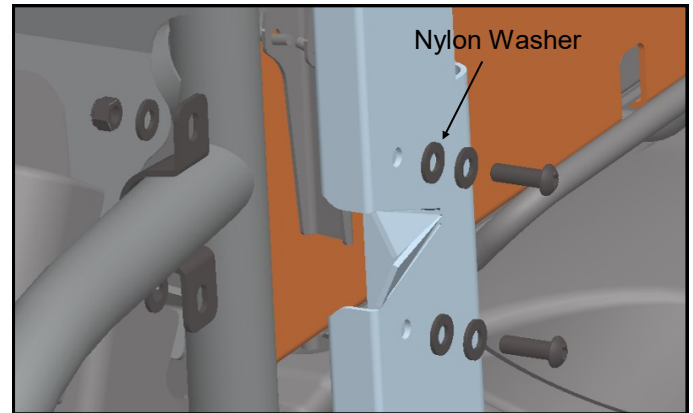

Fig. 7.1 (install u-clamp)
7. Per fig. 7.1, install the U-clamp using two 5/16-18 x 1" bolts, two 5/16" nylon washers, four 5/16" steel washers, and two 5/16" nuts. Be sure to orient the U-clamp so that the angle of the clamp is aligned with the angle of the ROPS hip restraint tube that it fastens to. Install the bolts from the outside. Make sure to push the hinge plate completely forward so that it is touching the rear of the ROPS tube and tighten the two bolts for the U-clamp and the bolt from step 7.1 at this time. Repeat for the passenger side.